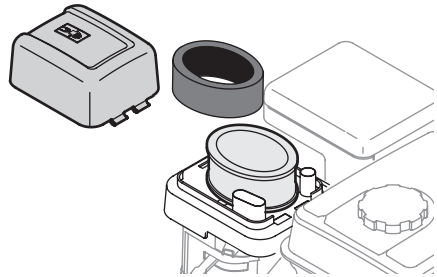

Figure 14
1. Press the tab on the air filter cover and lift the cover (Figure 14).